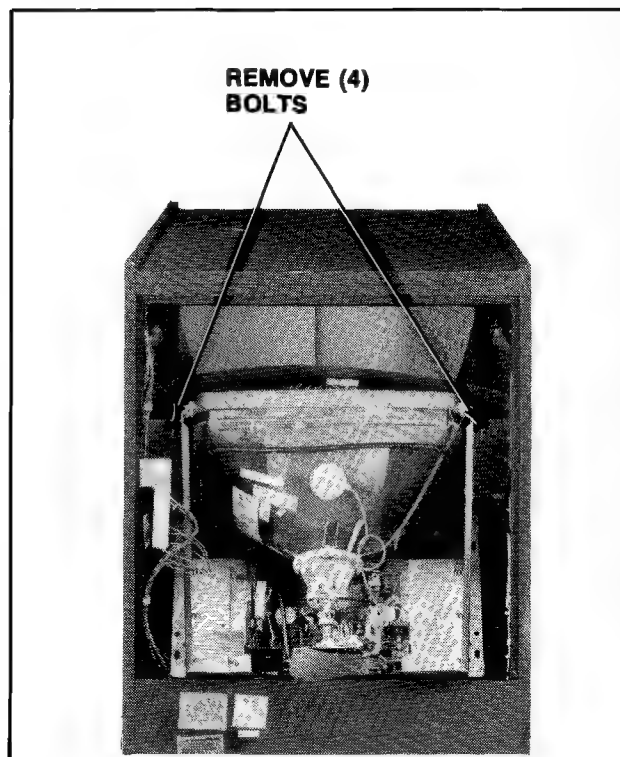

Figure 3-4 Removing the Monitor
### 1. UPRIGHT MODEL: See Figure 3-4.
- ☐ The monitor mounting bars slide on top of and against two metal guides mounted to the cabinet's right and left sides. The monitor is removed by sliding it out the back of the cabinet. See Figure 3-4.